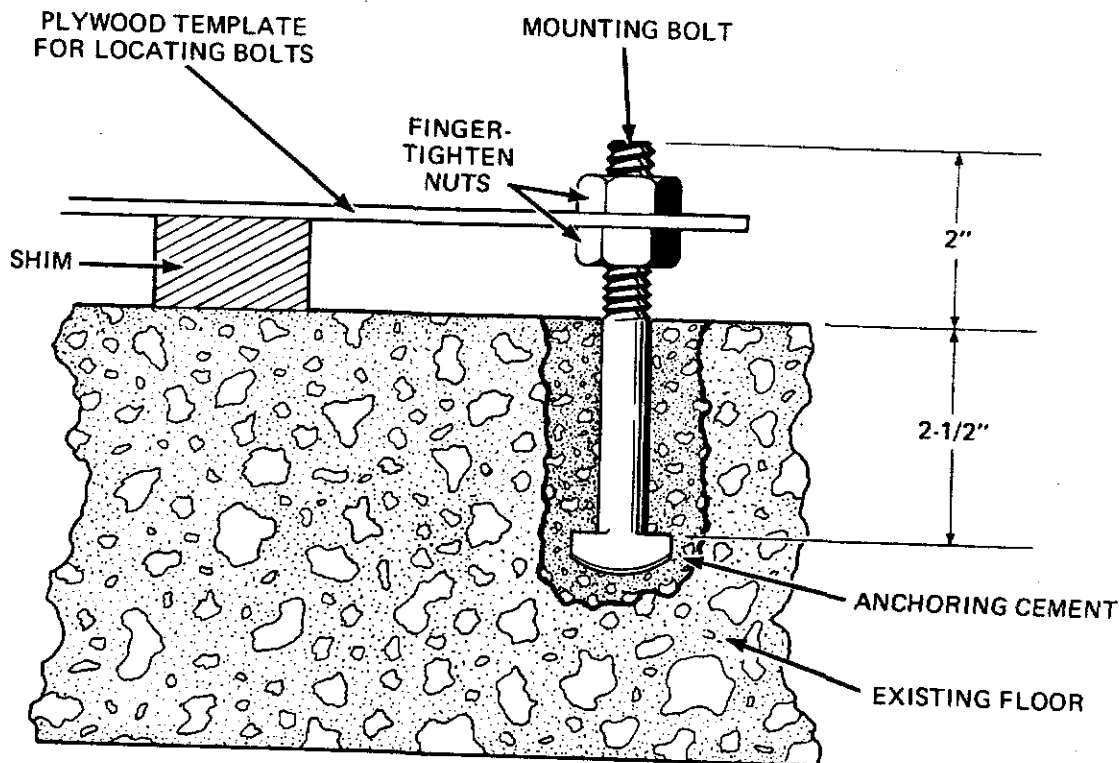

Figure 1
- b. Drill six, 1-1/4 inch diameter holes in concrete floor between 3 and 3-1/2 inches deep. See *Figure 1*.
- d. Fasten mounting bolts to plywood template with nuts. See *Figure 1*.
- i. Shim template until all mounting bolts are in holes same depth (bottom of thread even with floor). See *Figure 1*.